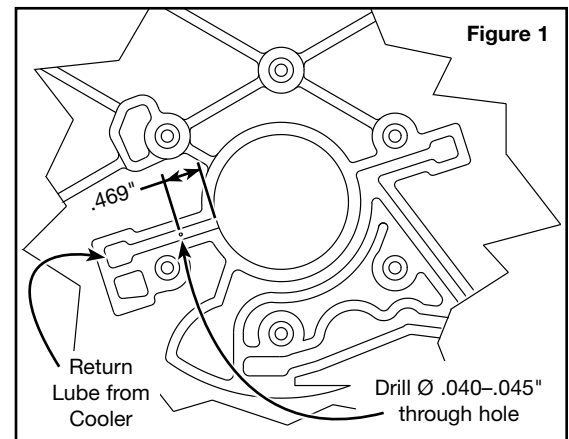

Figure 1
- c. It is recommended that you drill a small .040–.045" hole in the case to help lubricate the low roller clutch (Figure 1).